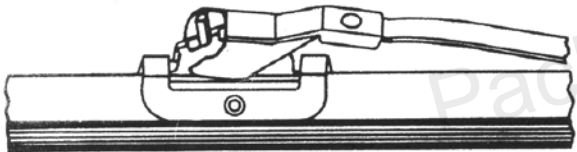

Figure 15 Correct Method of Hooking Wiper Arm to Blade
2. To install wiper blade, hook onto arm as shown in Figure 15.
5. Install wiper arms and blades (See Figures 15 and 16). Adjust blade parking (See "How to Make Blade Parking Adjustment" at right above).